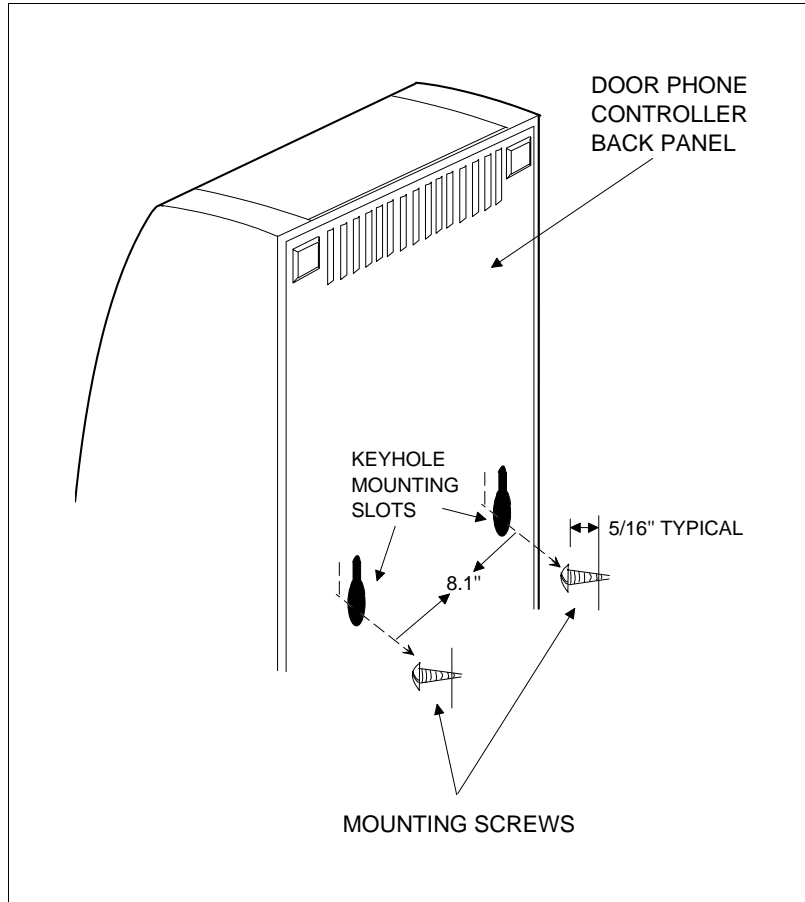

Figure 2-3. Mounting PagePac® Door Phone Controller to Wall
3. Mount the Door Phone Controller over the protruding screw heads and seat unit firmly to the wall. See Figure 2-3.